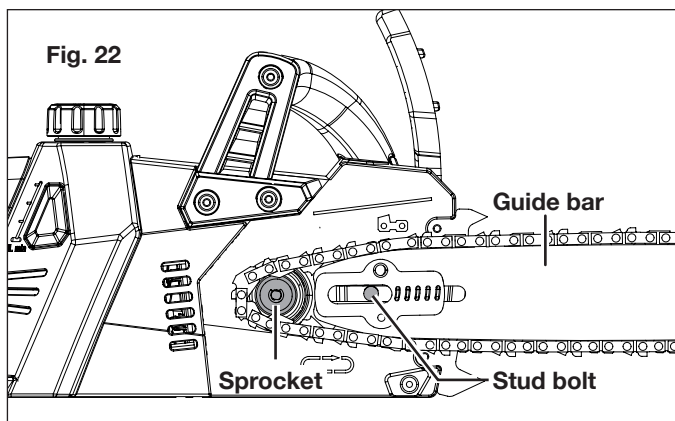

Fig. 22
6. Mount the guide bar by inserting the stud bolt into the long slot on the guide bar; arrange the chain loop on the back of the bar to ensure the sprocket is inserted in the loop (Fig. 22).